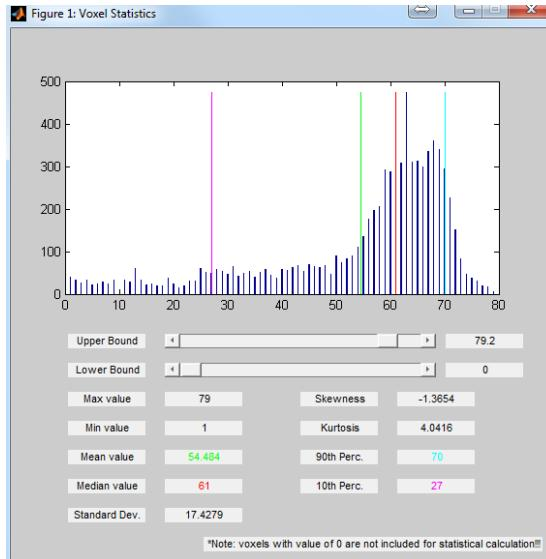

Figure 6.16: Histogram for One Image Slice
- : Plot histogram for current slice (Figure 6.16); if ROIs exist, plot histogram for latest activated ROI